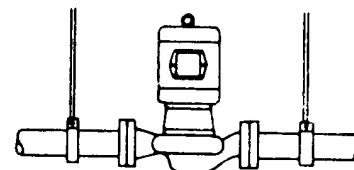

Fig. 2 Pipe Hanger Support
- (b) Supported from ceiling by pipe hangers (Fig. 2)